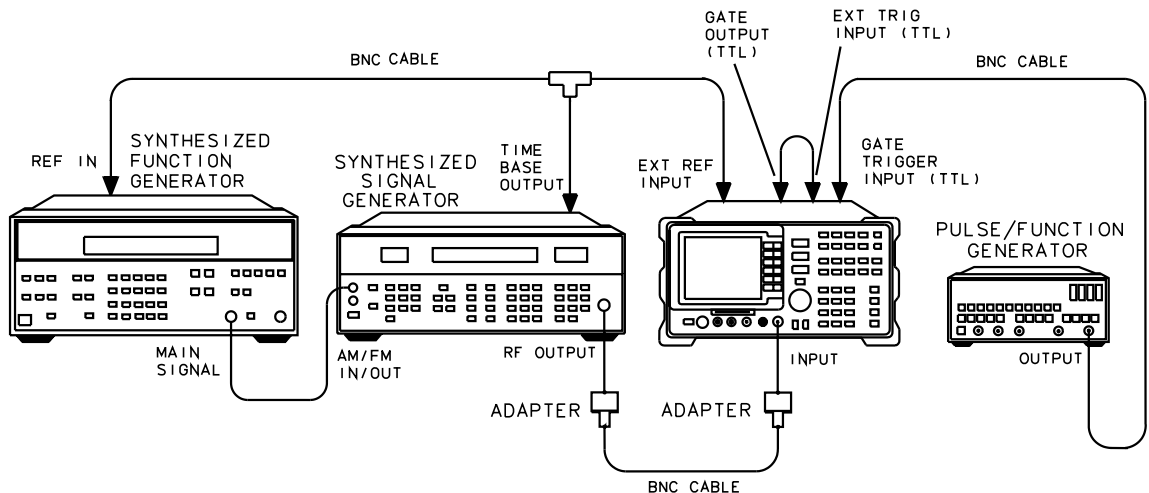

Figure 71
- 2 Connect the equipment as shown in Figure 71.